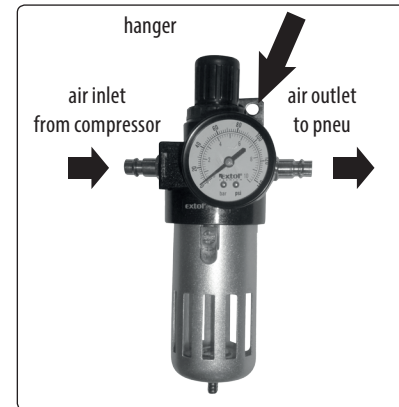

Fig. 7, description of the pressure regulator with pressure gauge and filter Extol® 8865104
- Connect the air outlet from the compressor to the correct hole on the treatment equipment, see fig.7.